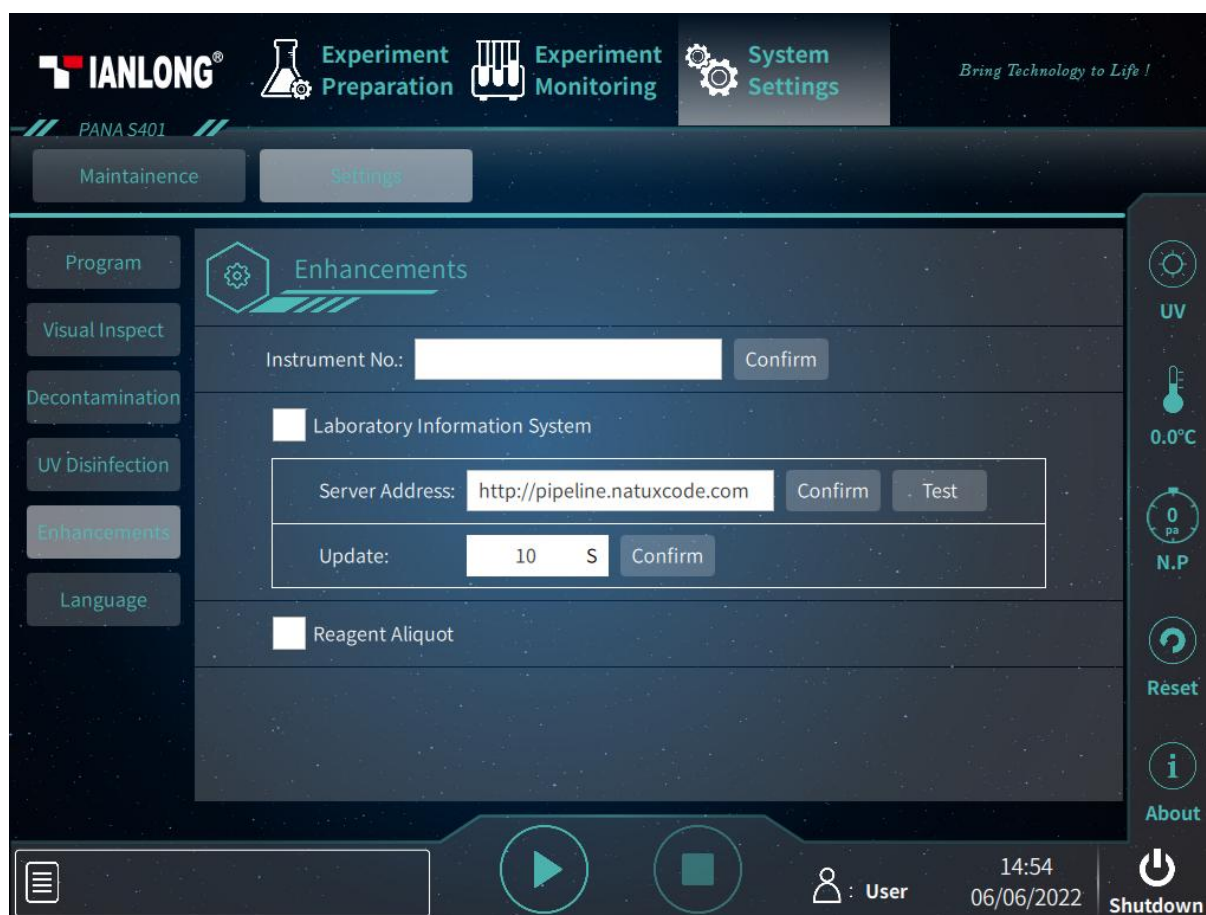

Figure 5-26. System Settings Interface – Settings Tab – Enhancements
- ▶ **< Enhancements >**: This tab consists of **Laboratory Information System** and **Reagent Aliquot**, as shown in figure 5-26.